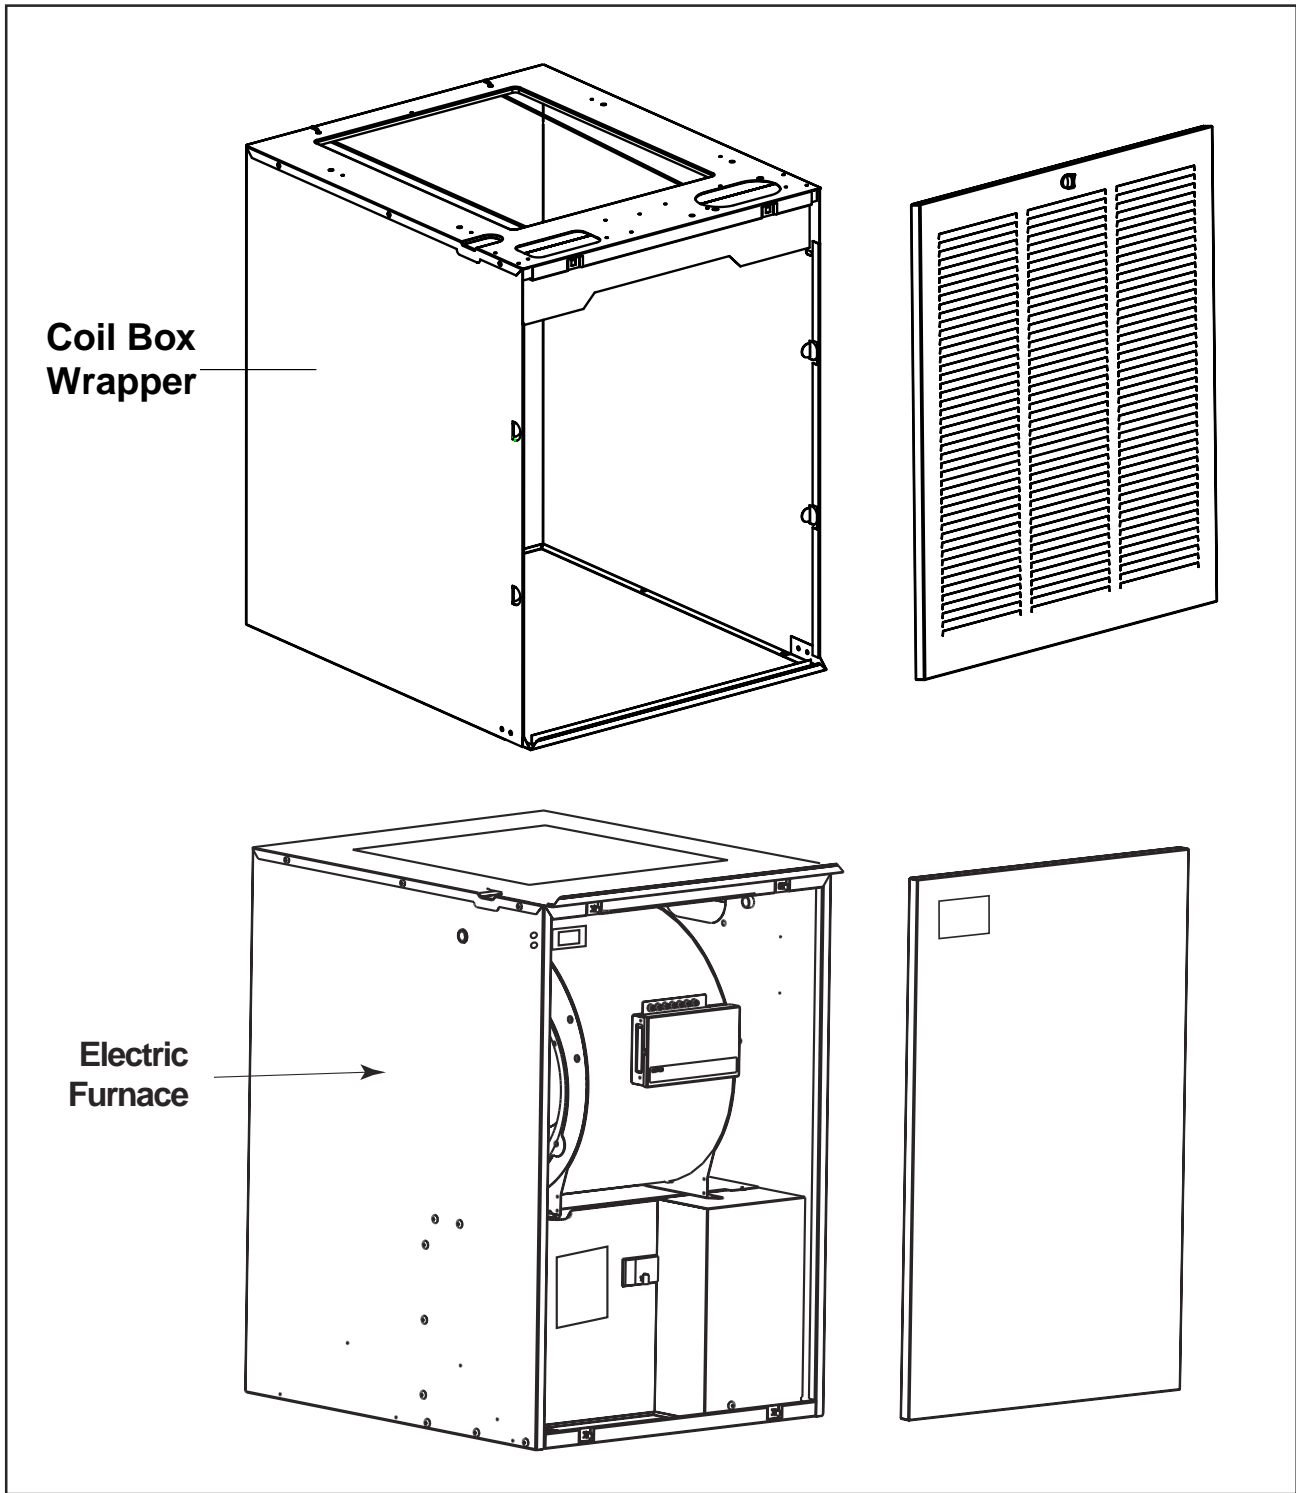

Figure 1
- 4) Position coil cabinet on a flat surface as shown in Figure 1. Remove the 20" x 25" filter and the louvered grille.